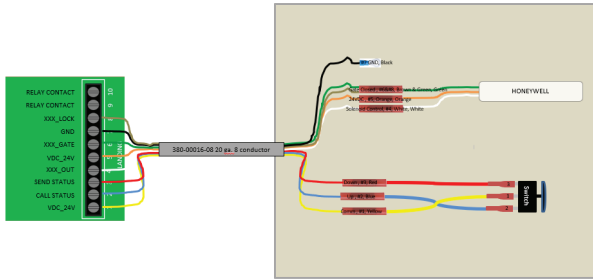

Figure 4-17
9. Connect the interlock wires and the gate call / send switch (if equipped). *See Figure 4-17.*
8. Use crimp connectors to make cable connections in the call station. *See Figure 4-17.*
9. Install the front cover to back cover or in-wall outlet box with four (4) cover screws.
10. Install label plate on the front cover with four (4) label plate screws.
Connect wiring per device instructions and Figures 4-17 on page 21. For details, please refer to the supplemental guide "Stratos Wiring Schematics".